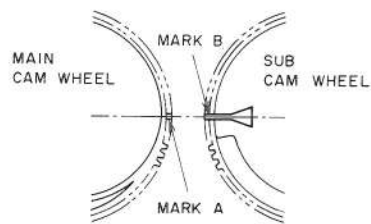

Fig. 6-3
- 2) Align marks **(A)** and **(B)** on MAIN CAM WHEEL and SUB CAM WHEEL and fix them on capstan holder as shown in Fig. 6-3.